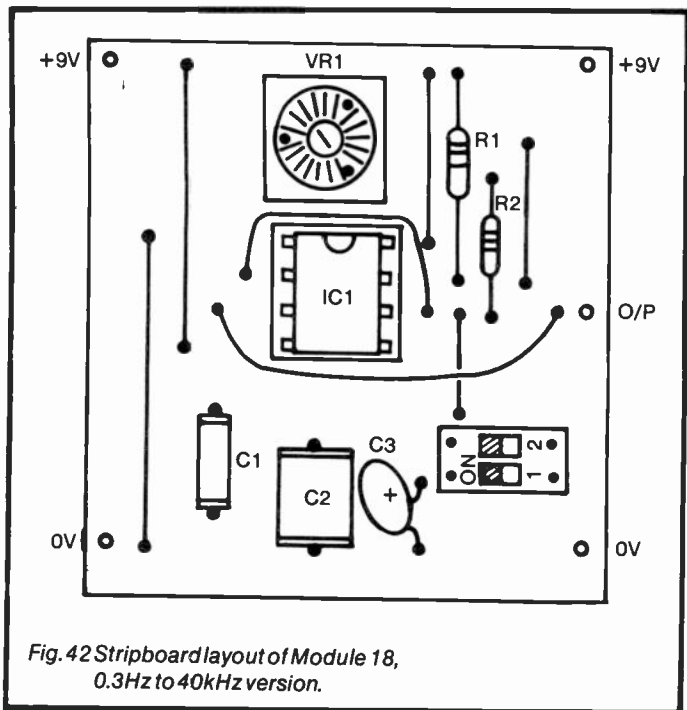

Fig. 42 Stripboard layout of Module 18,
*Stripboard layout:* see Figure 42 above. Cut strips beneath the board at F7 to I7, H13, L12, M12. Solder blobs join B13 to C13, K14 to L14 to M14, N4 to O4. Figure 42 shows a version of the module in which R2 and VR1 are in series, thus allowing the frequency to be varied. It also has 3 different capacitors which can be switched in to give three frequency ranges. C1 is permanently wired in for the highest range. C2 or C3 are switched in (in parallel with C1) to give the medium and low ranges. Frequencies obtainable are: